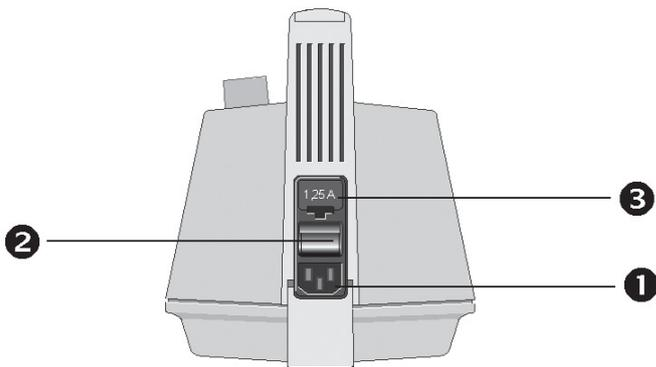

Fig. 2. Rear view of the Atmolit 26
- Connect the power cable (①, fig. 2) to the power attachment and the power plug to the local power socket.
- Start the unit with the switch (②, fig. 2).
Changing fuse (fig. 2)
- 2.) In the case the cover of the bacterial filter (fig. 2) is damp or soiled, the device is oversucked and therefore contaminated.